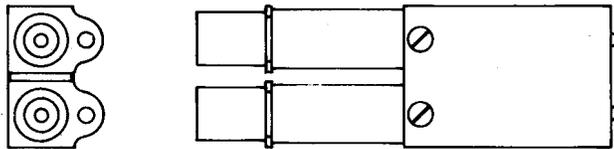

Fig. 20—489A Jack
2.15 489A: This coaxial-type jack (Fig. 20) has coaxially designed inner and outer contacts. The 489A jack is a twin jack that is designed for mounting in jack mountings such as the 185 and 230A. The mounting lugs on the two individual jacks may be positioned for mounting in order to extend in opposite directions, back to back, in the same direction, or side-by-side. This jack is designed to be used with the 337 and similar-type plugs, but not for cord or coaxial cable connections. The inner contacts of the two jacks are interconnected by two 55 ohm resistors in series. The outer contacts are connected together and to the midpoint between the resistors. The 489A jack is used as a 110 ohm balanced termination in the J68337A FM Terminal Test Set of the TD-2 Radio System. The test voltage for this jack is 2000 volts ac. The test is made before the resistors are connected.